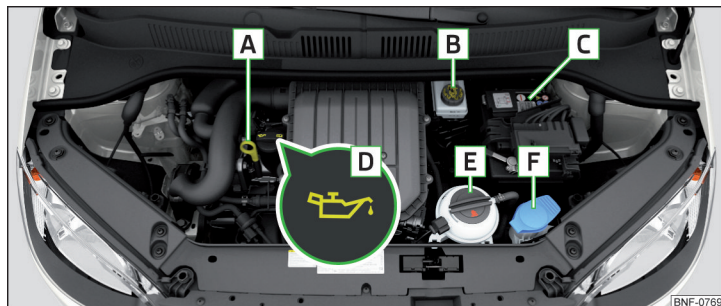

Fig. 107 Principle sketch: Engine compartment
Layout of the engine compartment » Fig. 107
- Unscrew the cap of the engine oil filler opening » Fig. 107 on page 108.